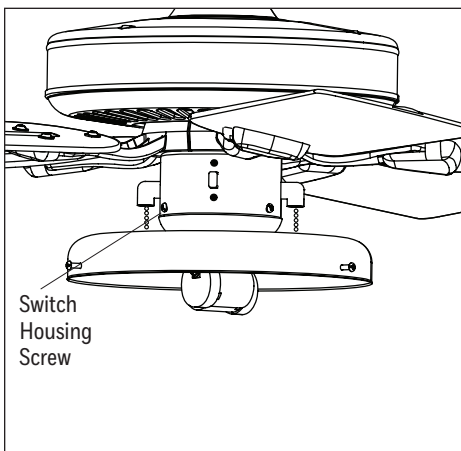

Figure 5.7
- Attach the switch housing cap to the switch housing using the three switch housing screws (Figure 5.7). **Note:** Align the notch in the switch housing cap with the reverse switch on the switch housing.